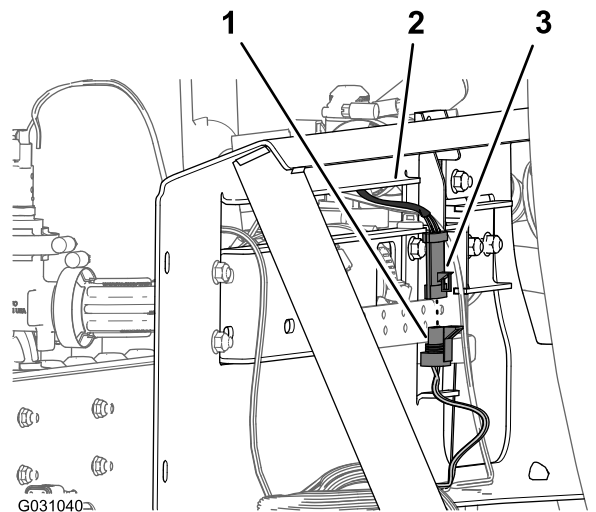

Figure 130
6. Connect the 3-pin connector for the harness of the agitation valve into the 3-socket connector of the 203 cm (80 inches) wire harness branch labeled **Agitation Valve** (Figure 130).